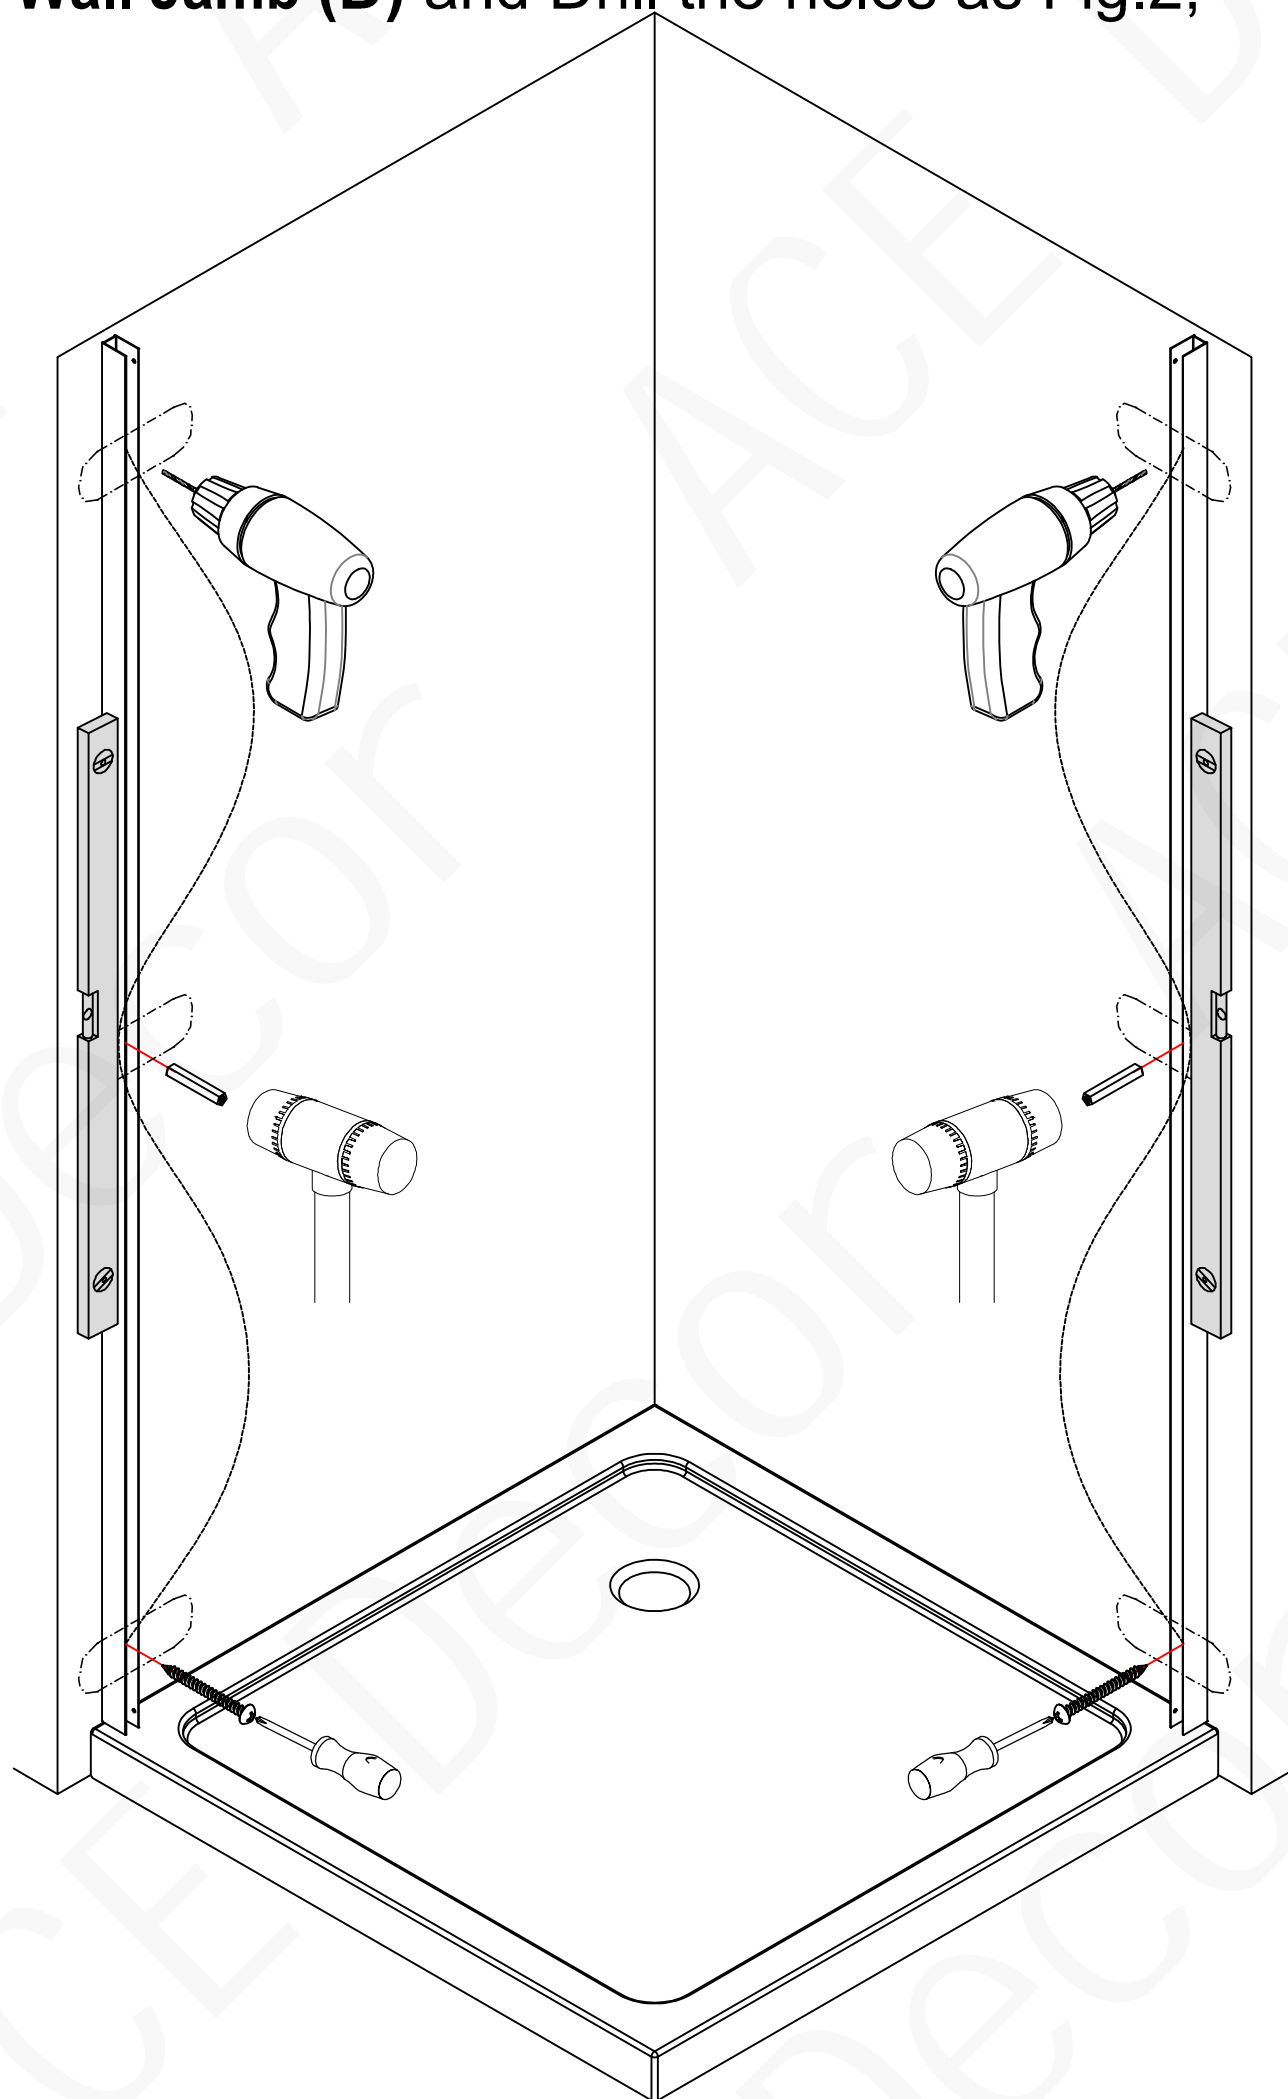

Fig 2
Remove **Wall Jamb (D)** and Drill the holes as Fig.2;